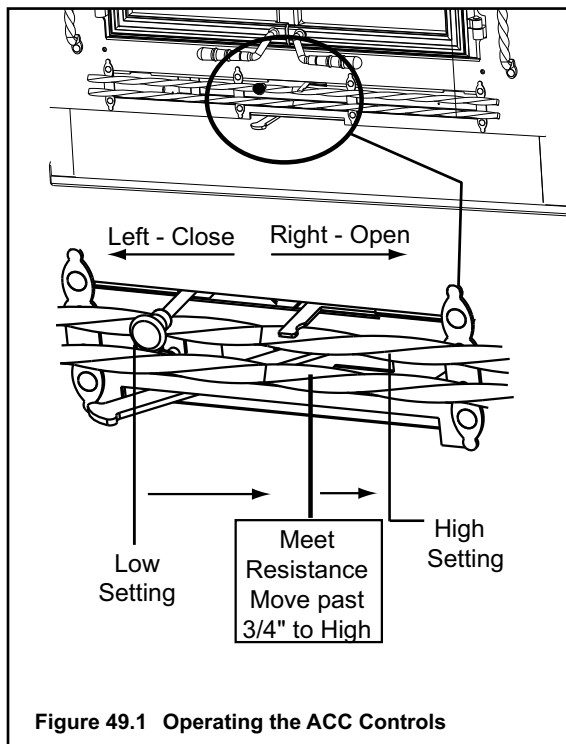

Figure 49.1 Operating the ACC Controls
2. Regulate burn rate (heat output) by using the Slide Air Control. See Figure 49.1.